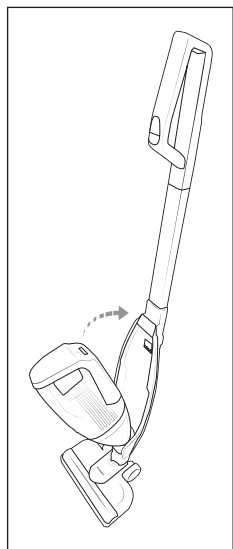

Fig. 3
- 1) To connect the hand element **2** to the handle rod **11**, push the tip of the hand element **2** into the opening in the hand element recess **14** (Fig. 3).
- 2) Then press the grip **1** of the hand element **2** into the hand element recess **14** so that the hand element **2** clicks firmly into position (Fig. 3).